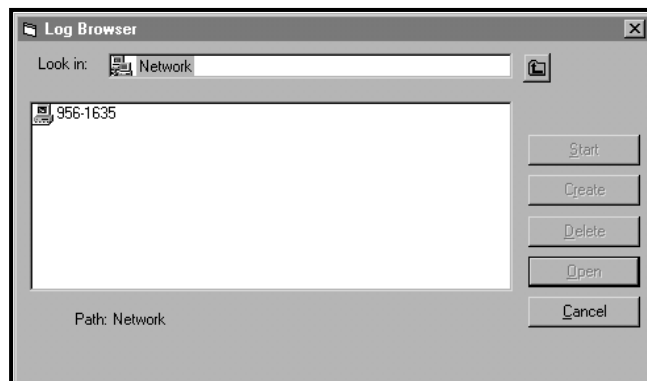

Figure 14: Computer Selection
- Click on the *Log Browser* option. The dialog box shown in *Figure 14* appears.